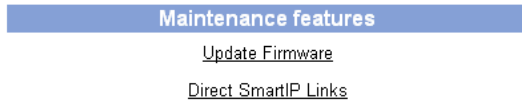

Figure 1 The Maintenance Features
1. Scroll down the Maintenance window to Maintenance Features. See Figure 1